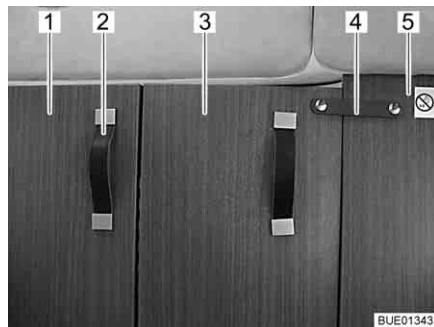

Fig. 52 Driver's cabin partition, closed
- Pull the driver's cabin partition (Fig. 52,1) completely inwards using the handle (Fig. 52,2).
- Using the securing strap (Fig. 52,4), secure the folding section of the driver's cabin partition (Fig. 52,3) to the fixed partition wall (Fig. 52,5) behind the front passenger seat.